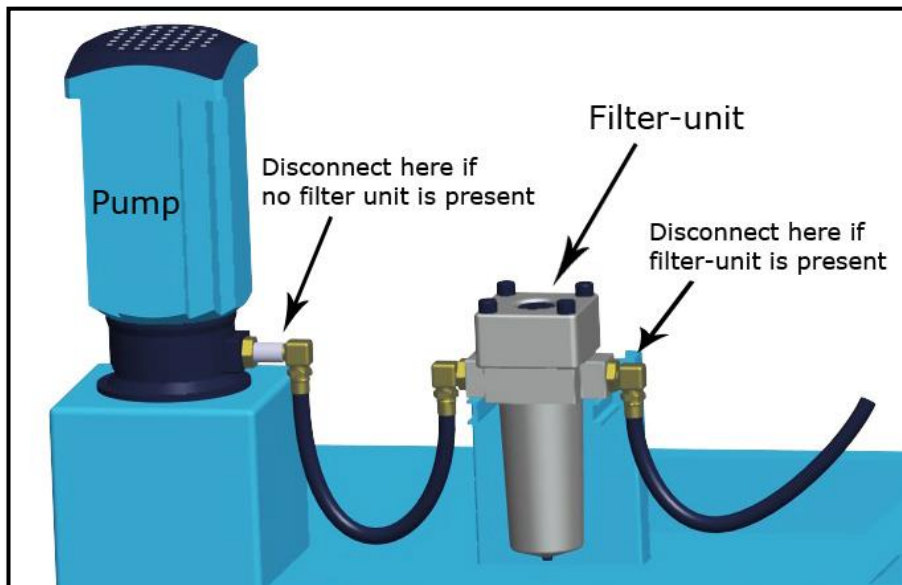

Fig. 2
3. The hose supplying cutting fluid to the machine tool is disconnected at the location specified in the illustration below (Fig.2).